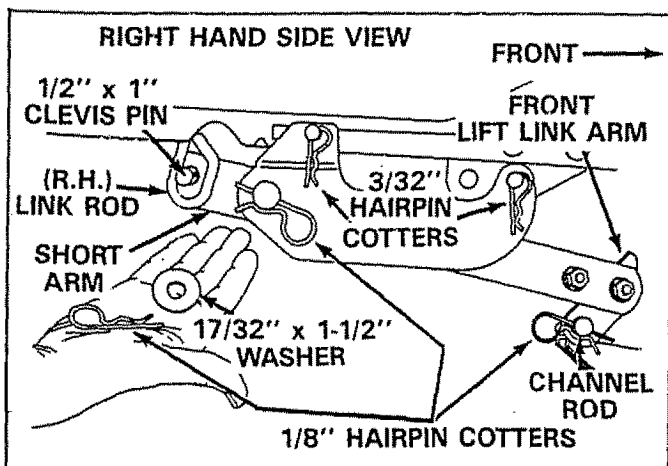
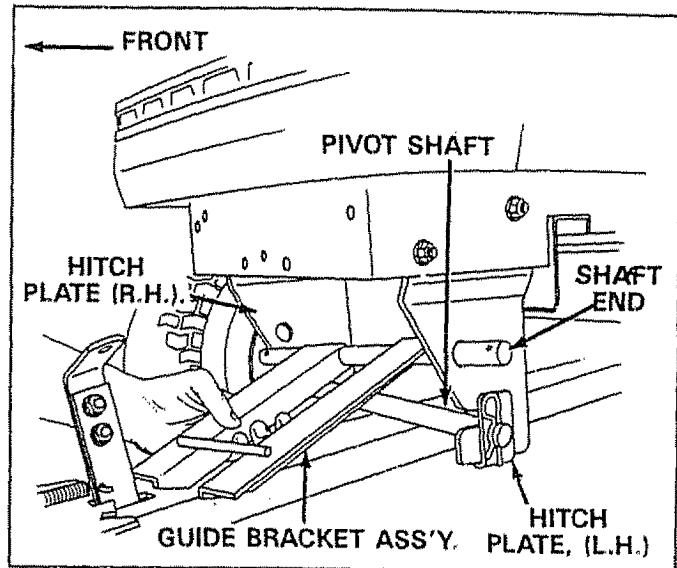
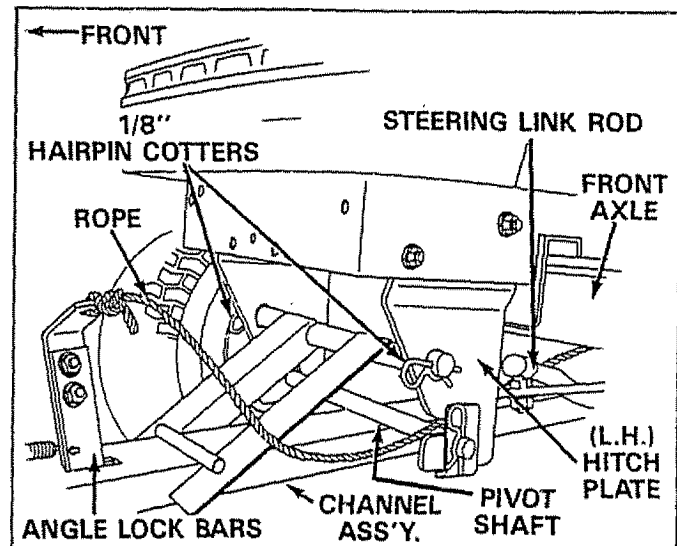
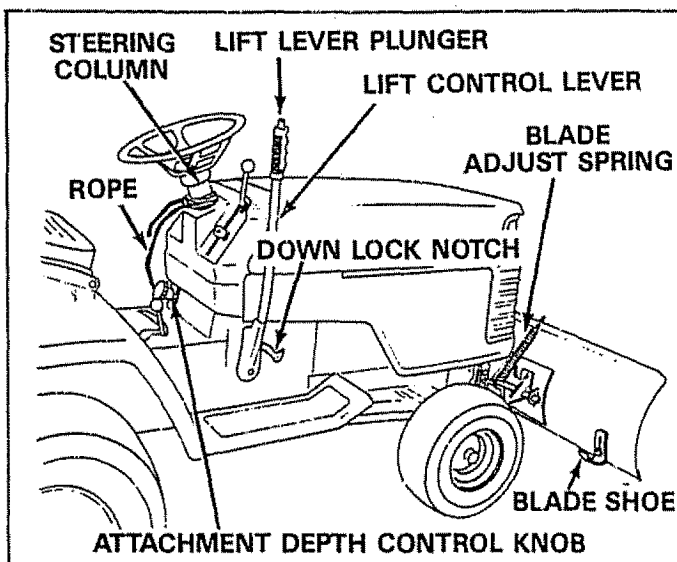

FIGURE 15
FIGURE 16
FIGURE 17
FIGURE 18
12. Move tractor lift control lever all the way back and lock in position. See figure 18, page 8.
15. Move tractor lift control lever forward (see figure 18, page 8) to lower link rods outside of short arms on lift assembly. See figure 15.
16. Assemble one 1/2" x 1" clevis pin from inside through short arm through right hand link rod, and through one 17/32" x 1-1/2" washer. Secure with one 1/8" (large) hairpin cotter on outside. See figure 15.
17. Assemble guide bracket assembly shaft end into the left hand hitch plate. See figure 16. Slide guide assembly back to the right and into hole of the right hand hitch plate. Secure with a 1/8" (large) hairpin cotter in each end. See figure 17. Lower front end of guide bracket assembly to straddle channel assembly.
18. Secure rope to top hole in angle lock bars. See figure 17. Thread rope as shown under left hand side of tractor, proceeding over pivot shaft, inside left hand hitch plate, between the steering link rod and tie rod, continuing outside of frame up to tractor steering column. See figure 18, page 8. Tie rope securely to steering column, taking up most of the slack in rope.
Located on right hand side of tractor. See figure 18. Move lever forward to lower snow blade. Pull lever back to raise and lock snow blade.
Located on top of lift control lever. See figure 18. Pull back on lift control lever and depress plunger to release.
Adjust lift control lever movement with attachment **DEPTH CONTROL KNOB** (see figure 18) for **maximum movement** between locking notches and to prevent lever from locking in the down lock notch. See figure 18.
Blade shoes on ends of blade, (see figure 18), may be raised for close work on smooth surfaces or lowered to raise the blade to work on rough or uneven areas. Make sure both shoes are set evenly and nuts are tightened securely.